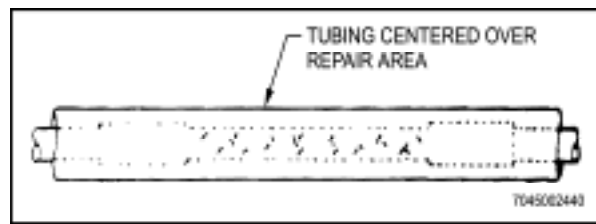

Figure 5-26 Tubing Centred Over Repaired Area
- t. Slide heat shrink tubing over repaired area and centre (Figure 5-26).